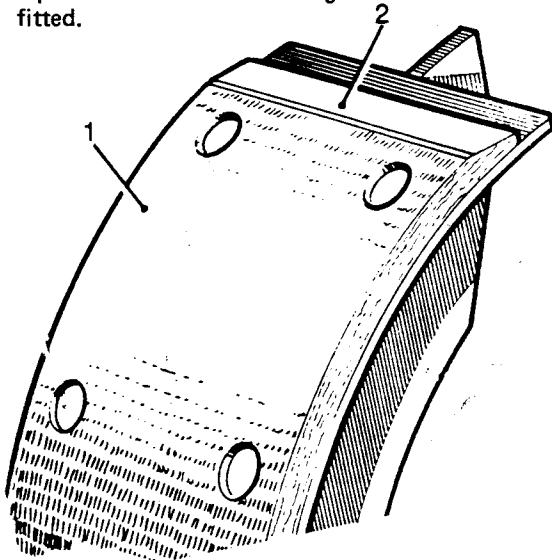

Fig K1.31
- (1) Refer to Fig K1.31. Attach the new linings to the shoes (1) commencing at the centre and working outwards, but only peen the rivets sufficiently to locate the linings.